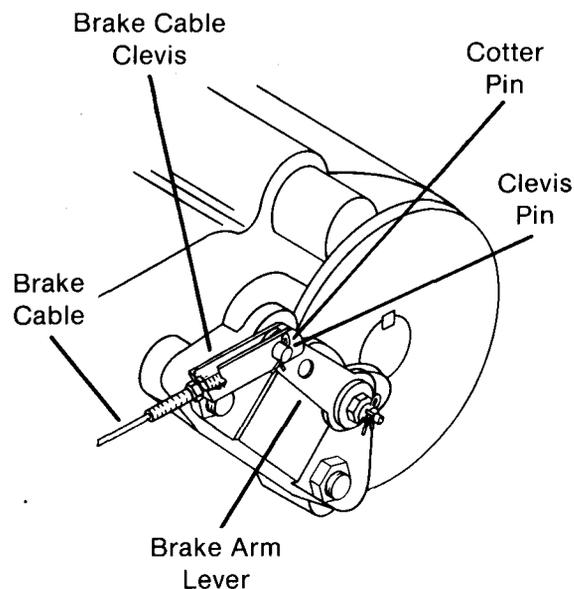

FIG. 75B
- F. With clutch/brake foot pedal released, disconnect brake cable clevis at brake lever arm (Fig. 75B). Retain clevis pin and cotter pin for reassembly.
- P. Reattach brake cable clevis to brake lever arm (Fig. 75B).
- a. With clutch/brake foot pedal released, disconnect brake cable clevis at brake lever arm (Fig. 75B). Retain clevis pin and cotter pin for reassembly.